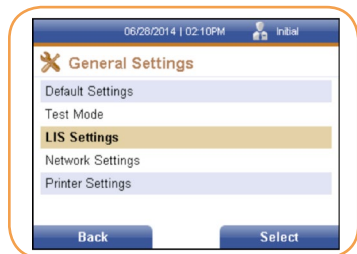

FIGURE 22
5. Once all information has been entered, select the right soft key to accept the information, or the left soft key to discard any changes made. Either selection will return the user to the previous menu (Figure 22).